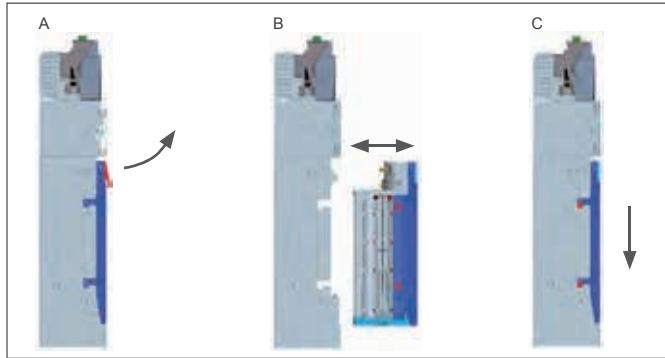

Fig. 2: Removing and reinstalling coin cassette
- 1 Remove cassette by pulling cassette latch followed by an up and out motion. The cassette comes straight out (Fig. 2, A/B).
- 3 Reinsert cassette straight in and down, until it clicks in position (Fig. 2, B/C).